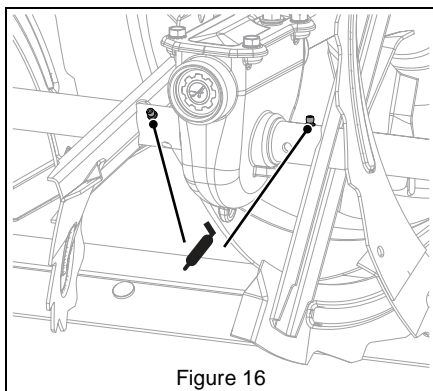

Figure 16
2. Apply grease at the grease zerks. See Figure 16.